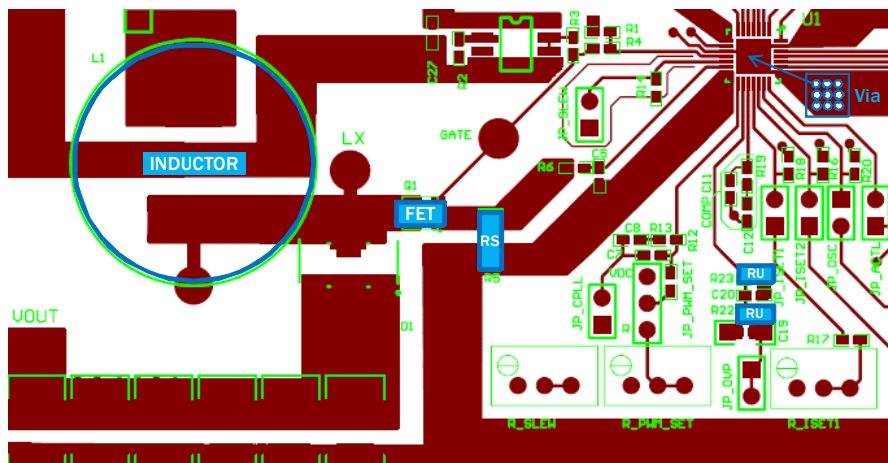

FIGURE 15. CURRENT SENSOR AND OVP RESISTORS
2. Figure 15 shows important traces of the current sensor (RS) and the OVP resistors (RU, RL). The current sensor track line should be short, so that it remains as close as possible to the Current Sense (CS) pin. Additionally, the CS pin is referenced from the adjacent PGND pin. It is extremely important that this PGND pin is placed with a good reference to the bottom of the sense resistor. In Figure 15, you can see that this ground pin is not connected to the thermal pad, but instead used to effectively sense the voltage at the bottom of the current sense resistor. However, this pin also takes the gate driver current, so it must still have a wide connection and a good connection back from the sense resistor to the star ground. Also, the RC filter on CS should be placed referenced to this PGND pin and be close to the chip.